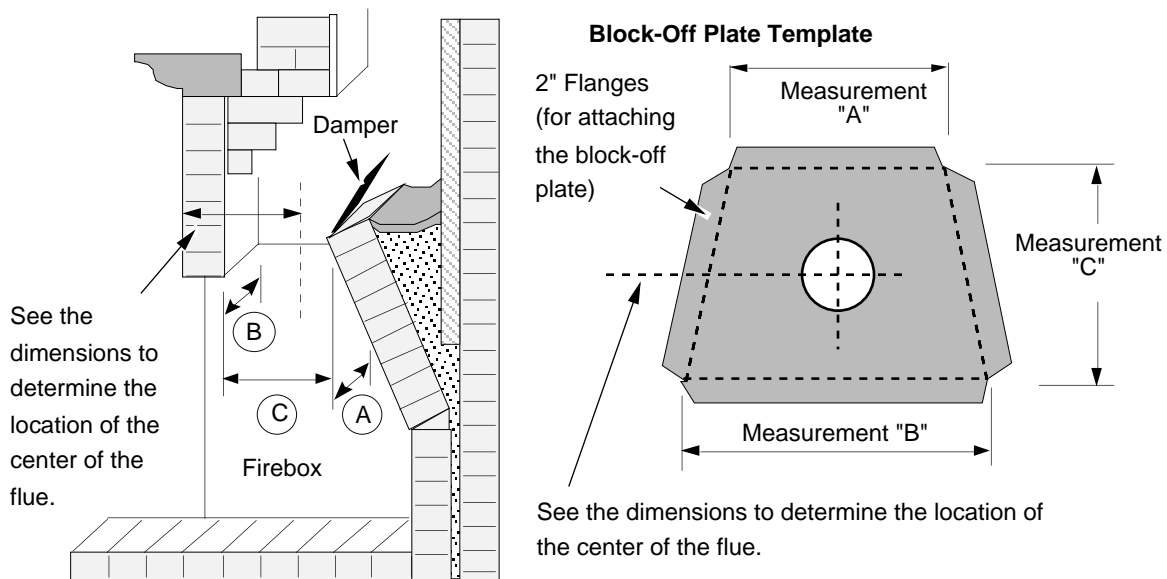

Figure 5
- 1 Determine a location for the block-off plate at the top of the firebox below the damper area (make it high enough to allow installation of the connection pipe). The location should be level and in an area where it can be mounted easily. Measure the width at the rear ("A") and front ("B") of the firebox at the height where the block-off plate will be installed (see Figure 5). Then measure the depth of the location where the block-off plate will be installed ("C").